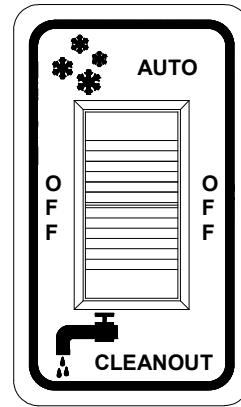
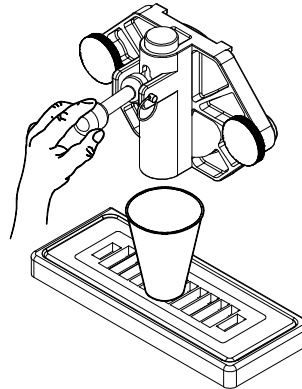

Fig. 4
Fig. 5
1. Set the control switch (Fig. 4) to the “**CLEANOUT**” position and dispense all product from the freezing cylinder by pulling downward on the spigot handle (Fig. 5) to empty the machine.
2. Set the control switch (Fig. 4) to the “**OFF**” (center) position. Close the spigot handle (Fig. 5) before proceeding to cleaning.